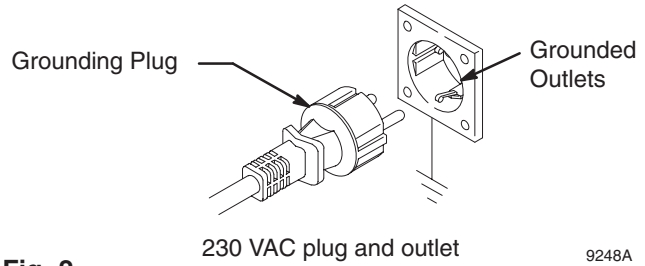

Fig. 2
1. Models 232138, 232135, 232134 require a 230 VAC, 50 Hz, 10A circuit with a grounding receptacle. Model 232139 requires a 120 VAC, 50/60 Hz, 15A circuit with a grounding receptacle. Models 232136, 232137 require a 100 VAC, 50 Hz, 15A circuit with a grounding receptacle. See Fig. 2.